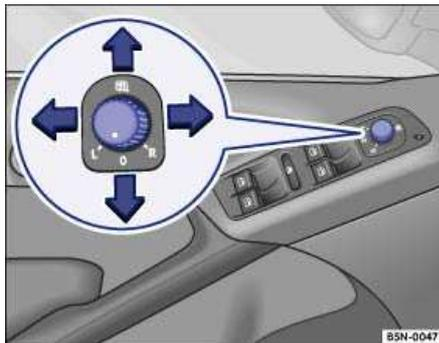

Fig. 49 Switch for adjusting outside mirrors.
1. Turn the rotary switch to **L** (for the **left outside mirror**) ⇒ Fig. 49.